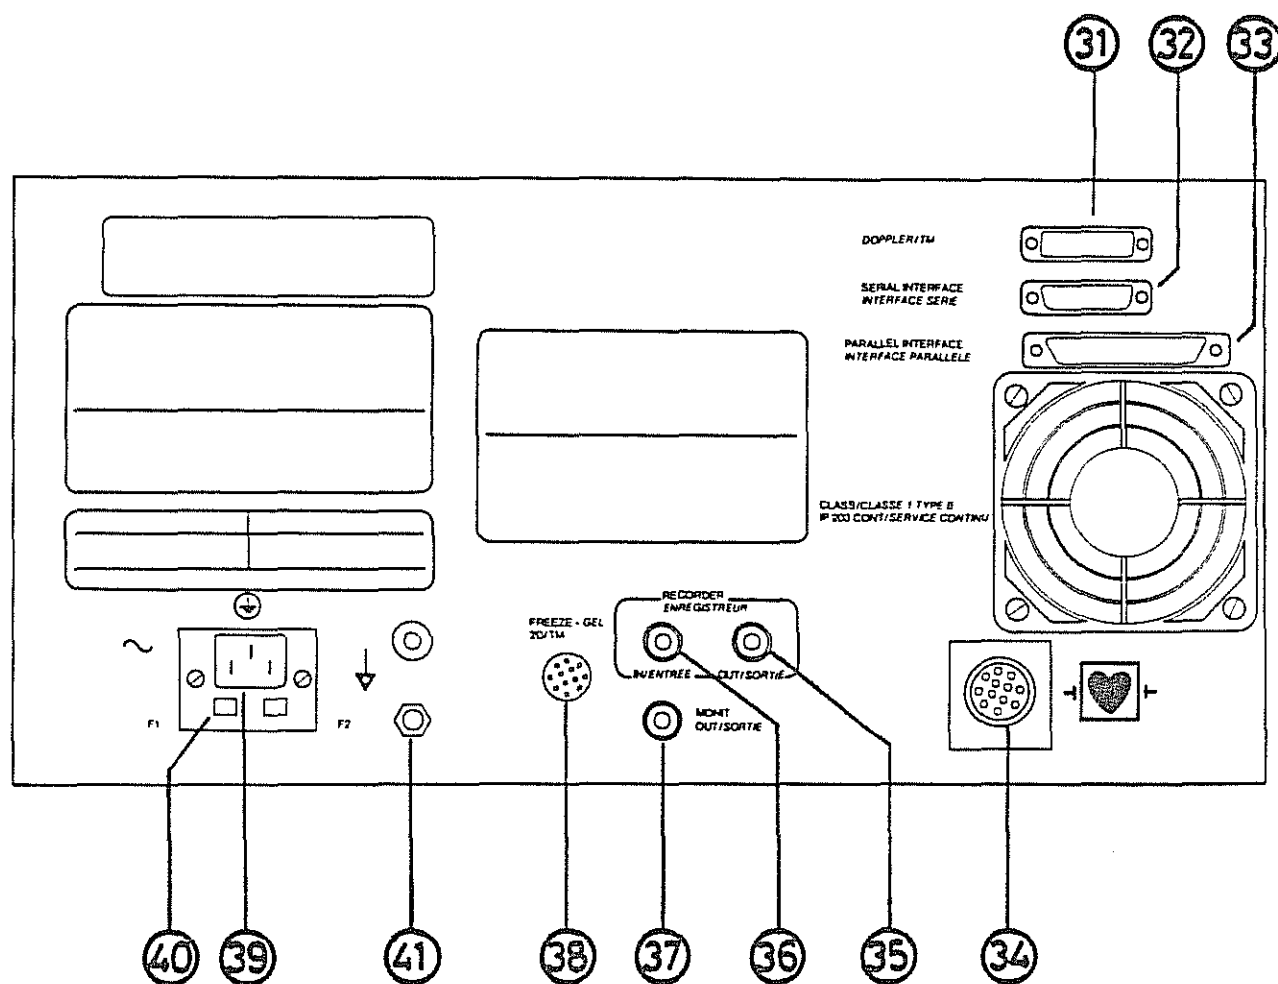

Figure 2-2 Rear panel
Keys for Figure 2-2
The unit can be connected to the patient's bed by using the equalization potential terminal. See figure 2.2., item (41) .